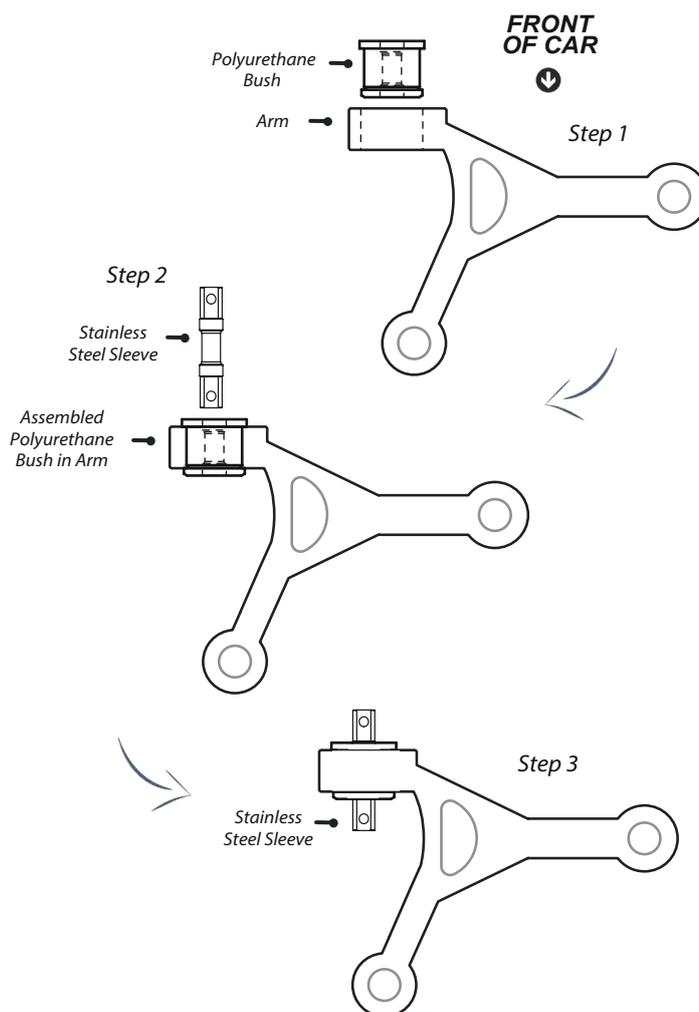

Figure 1 - showing the sequential steps in assembling this part in the arm
3. Push in the new polyurethane bush with the chamfered edge getting pushed in first, from the front of the car, as shown in step 1 in Figure 1. *Tip: It may be necessary to apply washing up liquid to ease fitting the bush.*
5. Push the sleeve into the bore of the polyurethane bush so that it sits flush inside, as shown in step 2 in Figure 1.